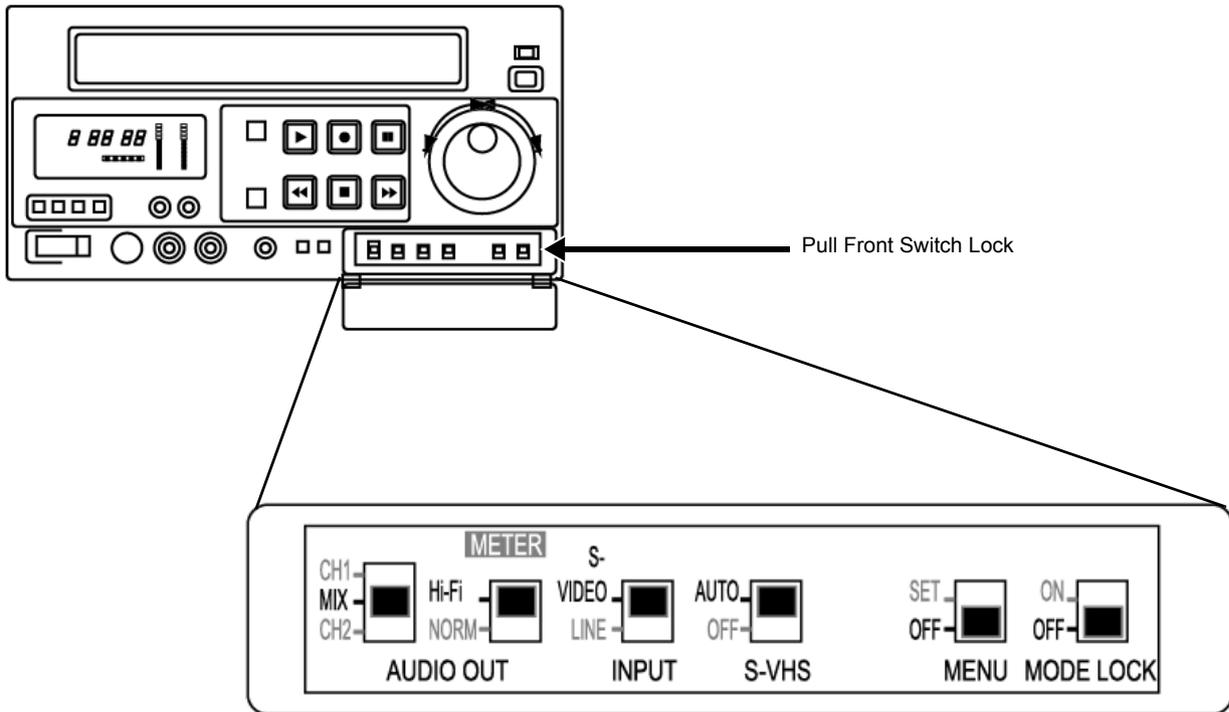

Figure 8-124 Panasonic VCR Switches Setting
- 5) Verify that the switches on the VCR front switch panel are as shown in Figure 8-124 on page 8-131. If necessary, adjust accordingly.